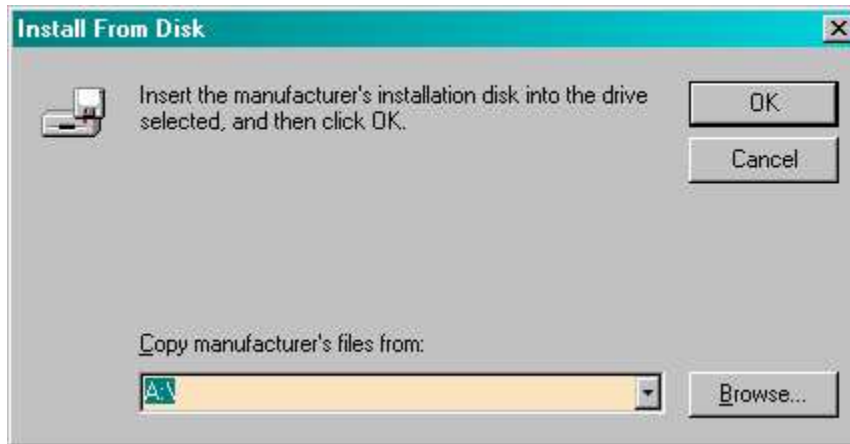

Figure 7
7. ... click **Have Disk...**, and the dialog of Figure 7 appears.